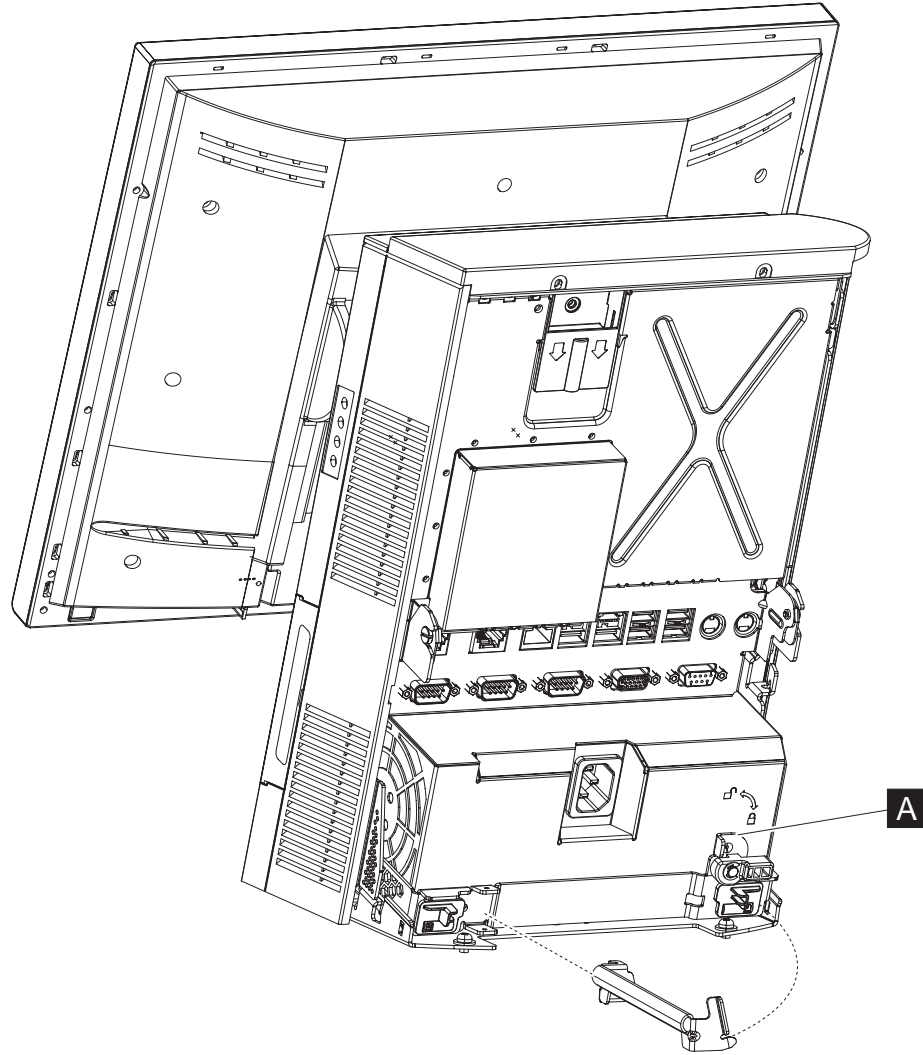

Figure 17. Removing the cable tie bar
3. Lift the latch **A**, as shown in Figure 17.